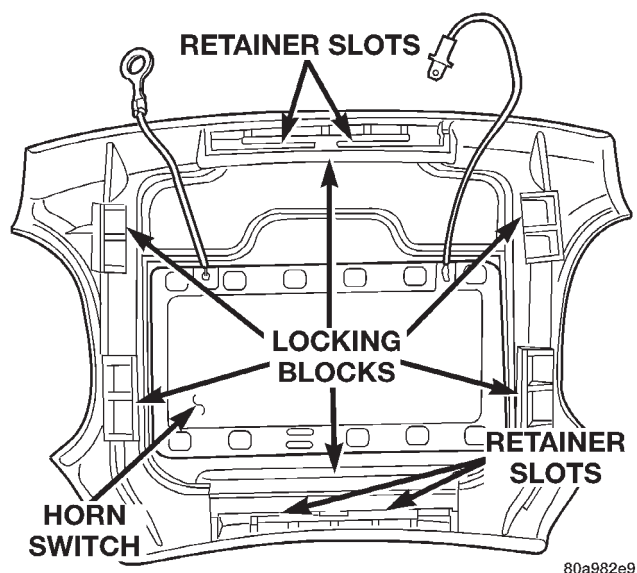

Fig. 10 Airbag Trim Cover Remove/Install
(5) Remove the horn switch ground wire eyelet from the airbag housing stud.
(6) Disengage the six trim cover locking blocks from the lip around the outside edge of the airbag housing and remove the housing from the cover (Fig. 10).
(8) When installing the upper and lower trim cover retainers, be certain that the tabs on each retainer are engaged in the retainer slots of the trim cover (Fig. 10).
(9) Install and tighten the trim cover retainer nuts to 10 N·m (90 in. lbs.).
(10) Reverse the remaining removal procedures to complete the installation, but do not connect the battery negative cable at this time. See Airbag System in Diagnosis and Testing for the proper procedures.